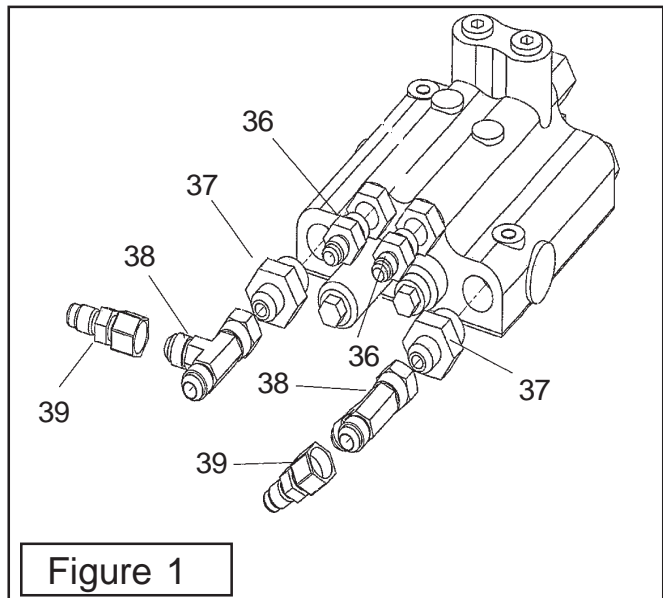

Figure 1
The two spool valve assembly shown (See Figure 13) shows the components that are replaceable in the two spool control valve. Study the drawings, the torque specification if any are listed for figure 12. The fittings are shown in figure 1 & 2. When working on valve always clean the exterior of the valve and hoses before disconnecting them. After disconnecting the hoses cap them with clean caps to keep contamination out of hydraulic system. When disassembling the valve make certain the OD of it and all work areas are clean, do not use dirty tools or rags that will leave lint. Only lint free towels (paper or suitable type) can be used to wipe down the hydraulic system. If any components need to be held in the valve body during assembly petroleum jelly can be used. DO NOT Exceed the recommended torque setting listed in figure 12. When removing plug item 11 watch the qty of washers that are removed, this amount is what should be started with when reassembling plug.